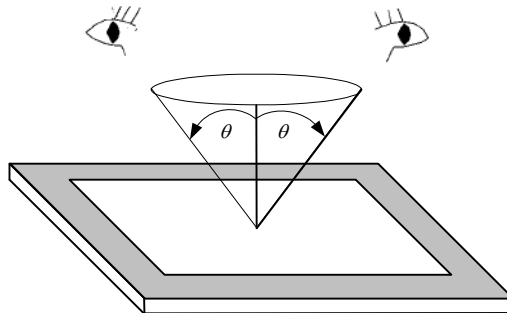

Fig 12.1
- The viewing zone is defined with angle  $\theta$  shown in Fig. 12.1 The inspection should be performed within  $45^\circ$  when display is shut down. The inspection should be performed within  $25^\circ$  when display is power on.